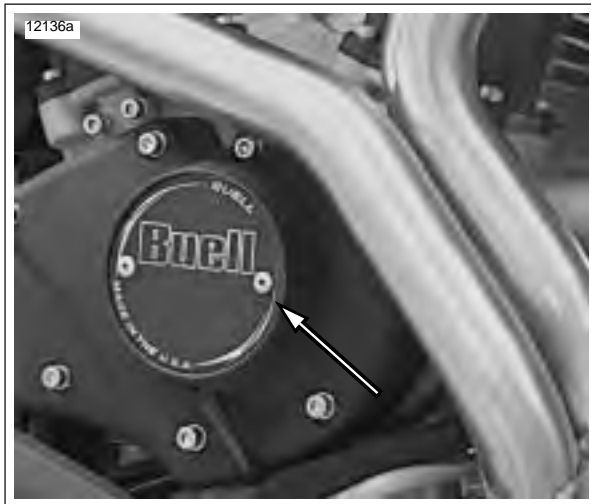

Figure 1-53. Timer Cover
1. See Figure 1-53. Remove timing plate cover.